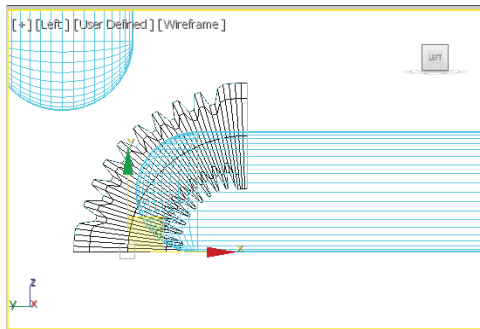

Figure 3-35 The spring support geometry zoomed in the Left viewport
8. Activate the Left viewport and make sure that *spring support* is selected. Choose the **Zoom Extents Selected** tool; *spring support* is zoomed in the Left viewport, as shown in Figure 3-35.